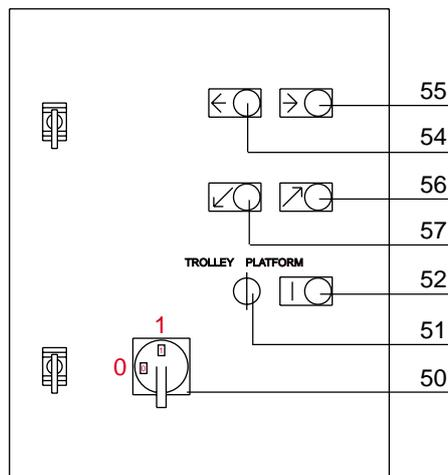

Fig. 4 - Trolley control box
- a) 1 control panel (electrical control box) (Fig. 4) on the trolley